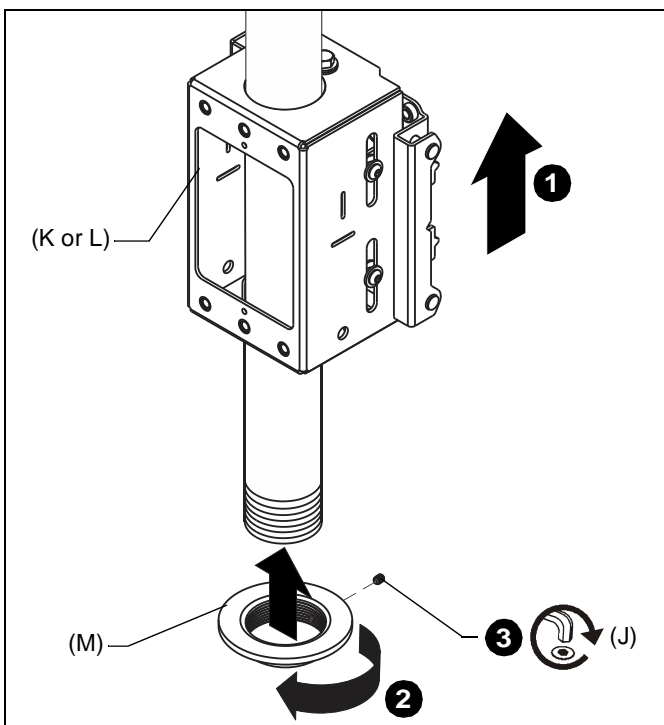

Figure 1
1. Slide ceiling head (K or L) up from below onto installed column (not included). (See Figure 1)
2. Thread bottom coupling (M) onto installed column until tight, with a minimum of four threads engaged. (See Figure 1)
3. Install and tighten one 10-24 x 1/4" set screw (J) into bottom coupling (M). (See Figure 1)